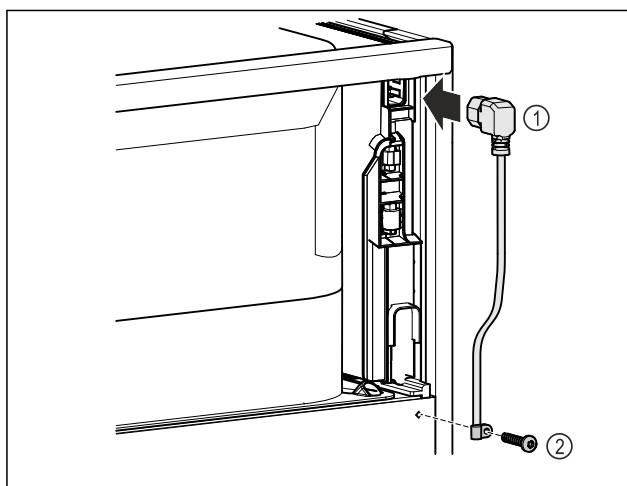

Fig. 40
- IEC socket of the power cable Fig. 40 (1) on the rear side of the appliance.
- Install mains tension relief. Fig. 40 (2)